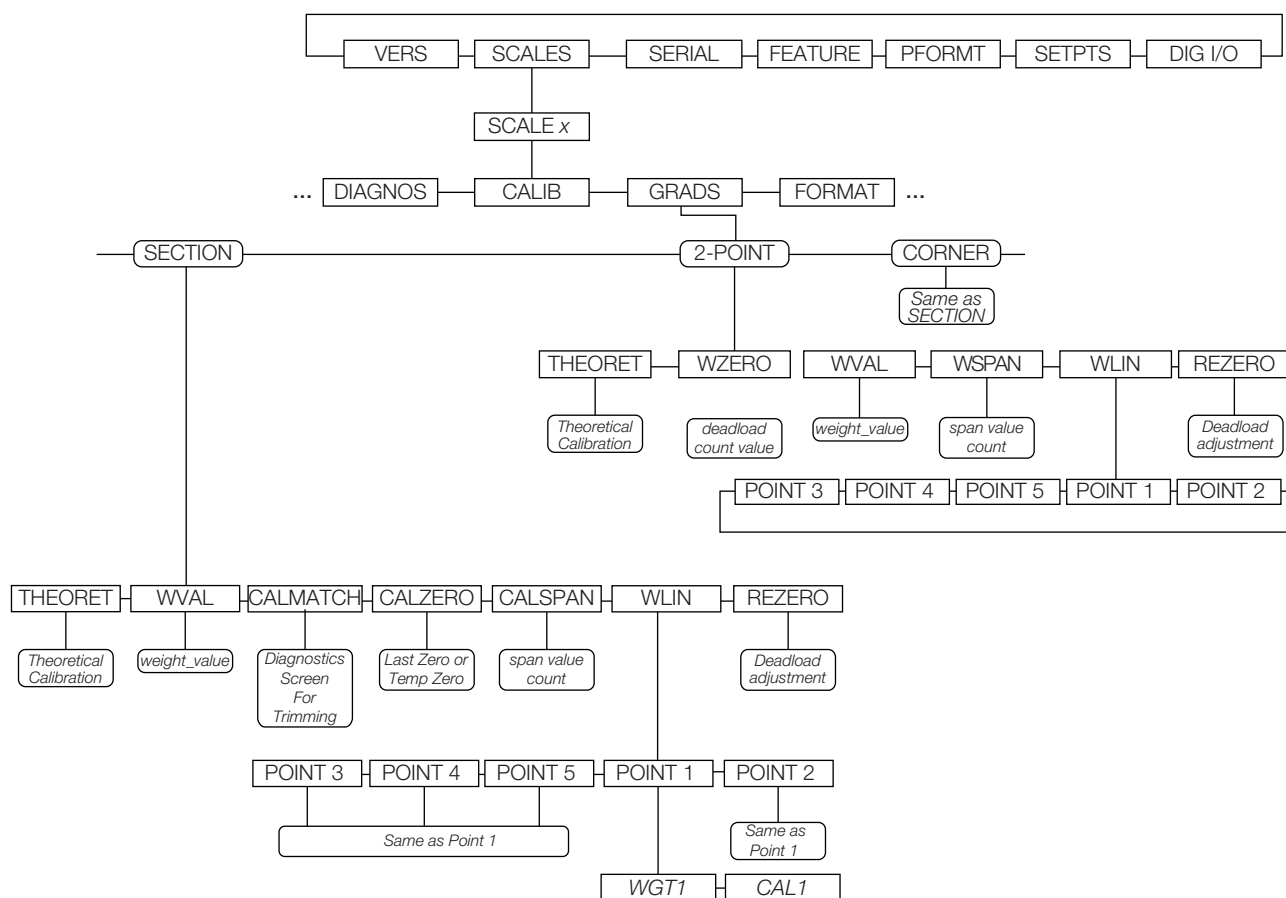

Figure 4-12. 920i Calibration Submenu
1. Ensure the scale is empty and navigate to the **Theoretical Calibration** parameter (Figure 4-12 on page 66).